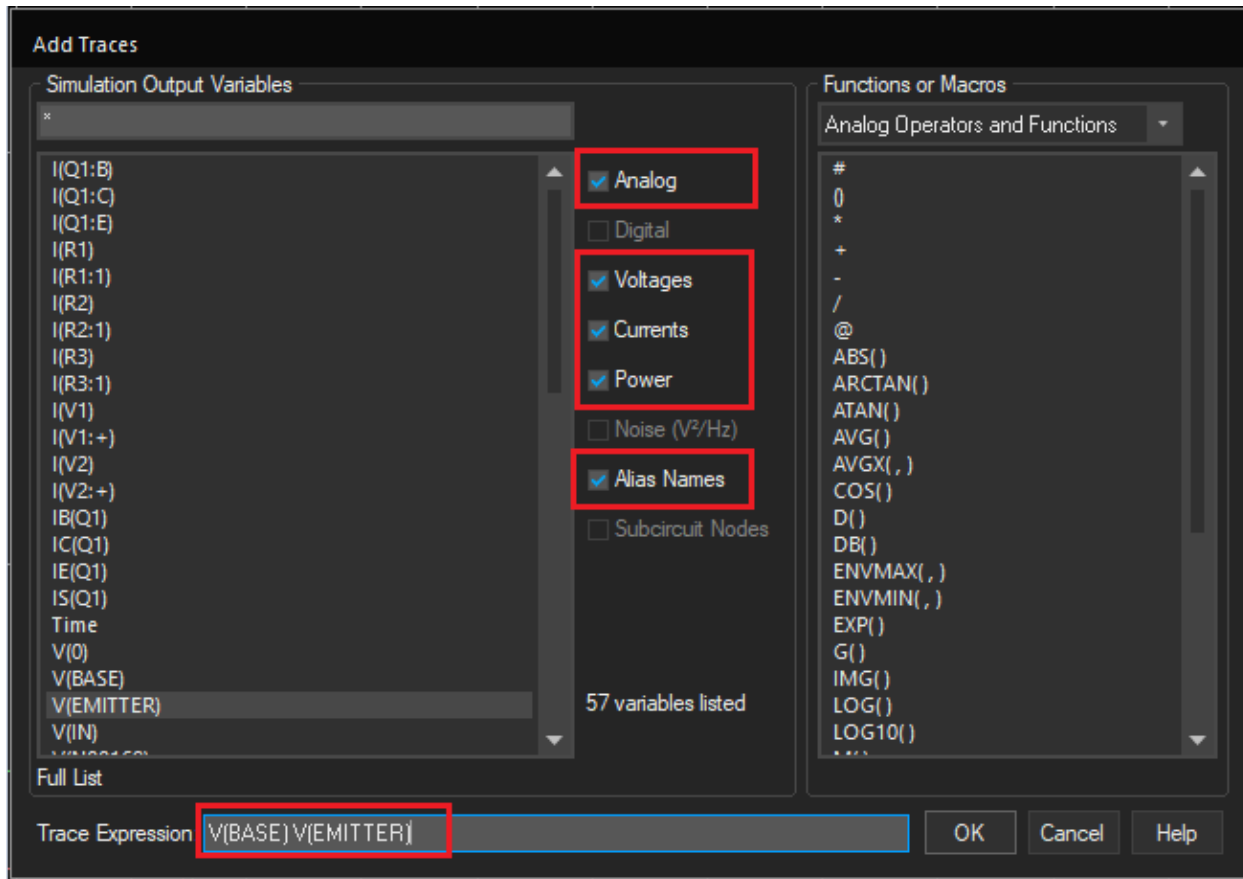

Figure 2-25: Adding V(BASE) and V(EMITTER) traces to Probe
36. Configure the filters for **Analog**, **Voltages**, and **Alias Names**, as shown in figure 2-25. Filters allow you to control the information that is displayed in the **Add Traces** form.